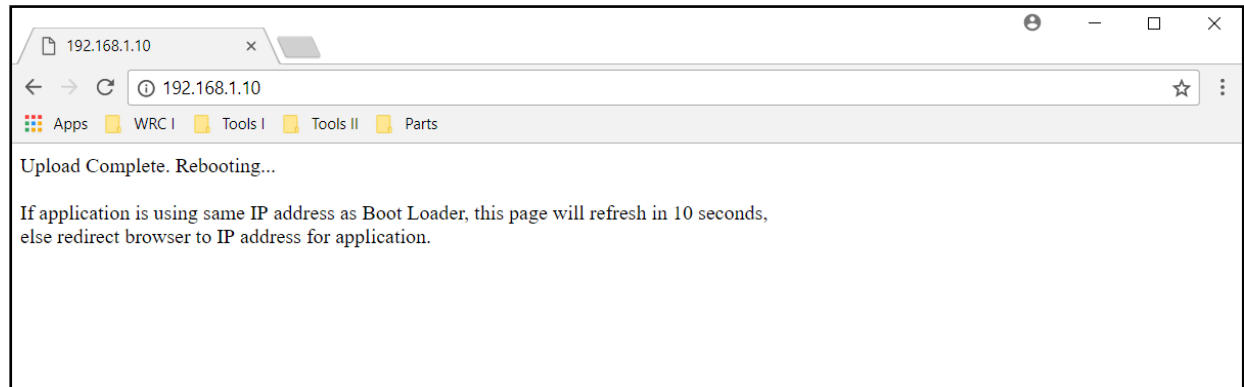

Figure 29. Firmware Download Complete
5. When firmware download is complete, the device will automatically reset, exit bootloader mode, and resume normal operation (observe LED behavior). Also, the webpage shown in Figure 29 will be displayed. Follow instructions on webpage.